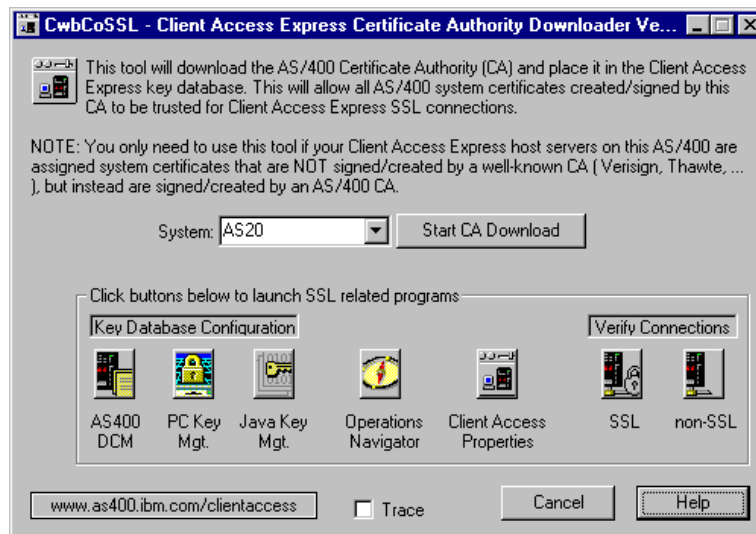

Figure 167. CWBCOSSL main window
- b. On the CwbCoSSL-Client Access Express Certification Authority Downloading Version 2.5 window as shown in Figure 167, specify the AS/400 name of CA. Click the **Start CA Download** button.